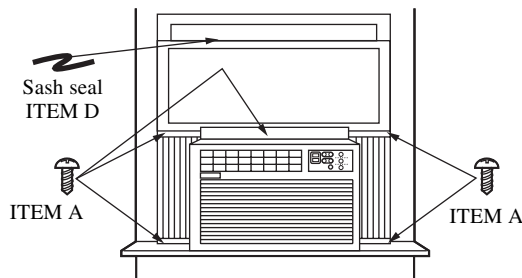

FIG. 7
Extend the sliding panels to fill the window opening using 5 screws (ITEM A) to secure them, as shown in FIG. 7.
- Cut the sash seal to the window width. Stuff the sash seal between the glass and the window to prevent air and insects from getting into the room, as shown in FIG. 7.
- Screw the sash lock (ITEM D) on using an ITEM B screw, as shown in FIG. 7.